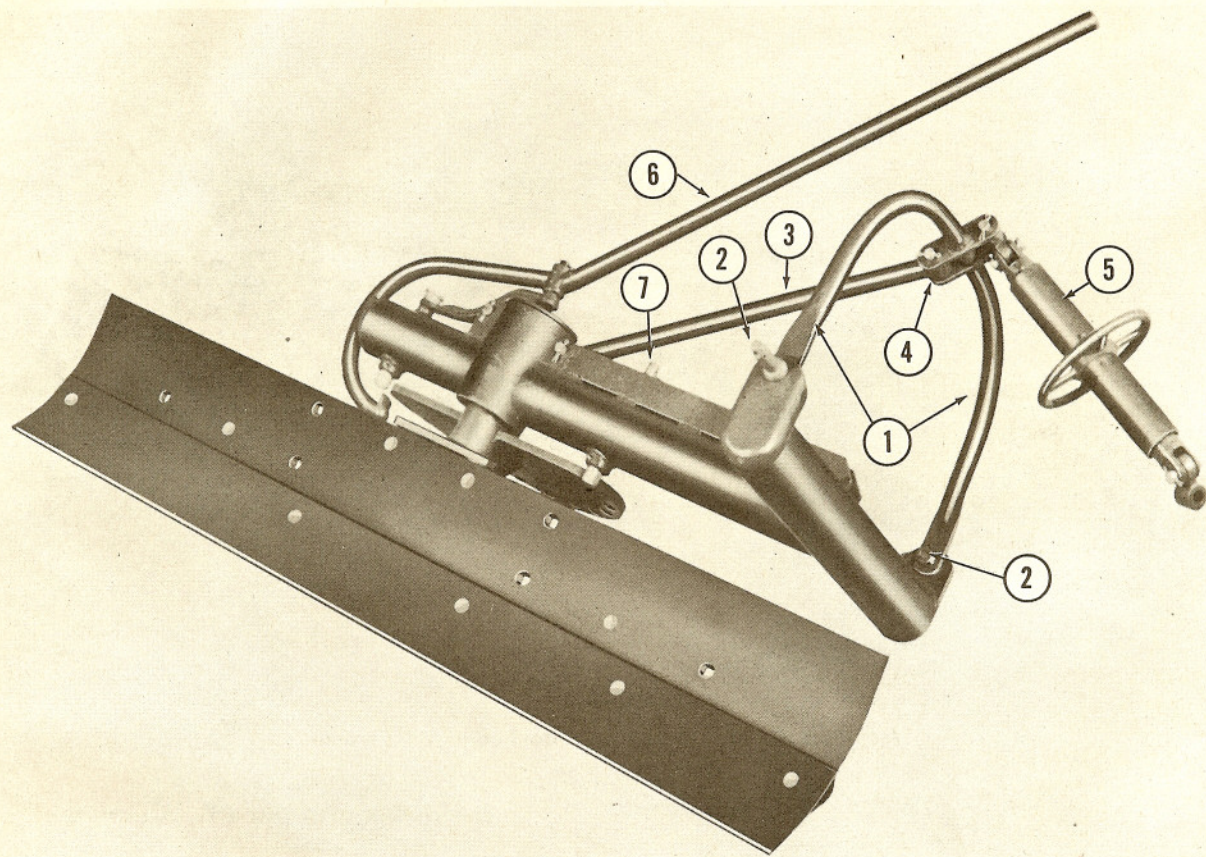

Figure 6
6. Attach the yoke (1), Figure 6, to the cross member of the main frame with link pins (2) and nuts as shown in Figure 6. Be sure the lower end of the clevis (4) on the top of the yoke is to the rear.
NOTE: Link pins are assembled in the reverse position at the factory for shipping purposes only. Remove and insert them as shown in Figure 6.
7. Attach the rear link (3), Figure 6, to the
Blade Pitch: The Pitch of the blade is adjusted by means of the pitch control link (5), Figure 6. Set the blade to desired pitch by turning the wheel on the control link.
Blade Angle: The blade is angled with the control handle (6), Figure 6. Move the control handle to fit the catch on the lower end of the
Reversing Blade: The blade is easily reversed for such operations as back-filling by releasing the rear lock pin and swinging the blade around one-half turn. Secure the blade in position with the rear lock pin (7), Figure 6.